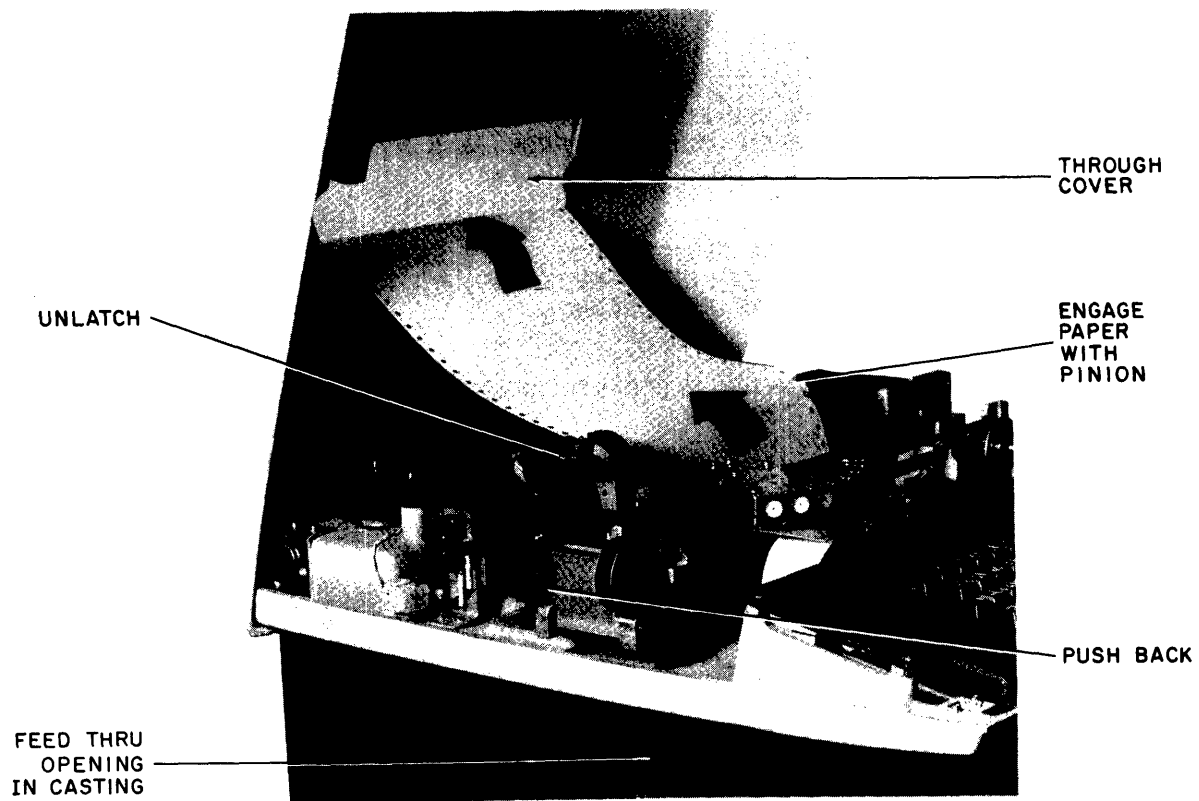

Figure 3-4 Paper Loading and Threading Diagram
4. Feed the paper from its box on the floor under the DECwriter up through the opening in the bottom of the base casting (Figure 3-4). Pull the fresh supply into the machine and discard any remnants of the old supply.